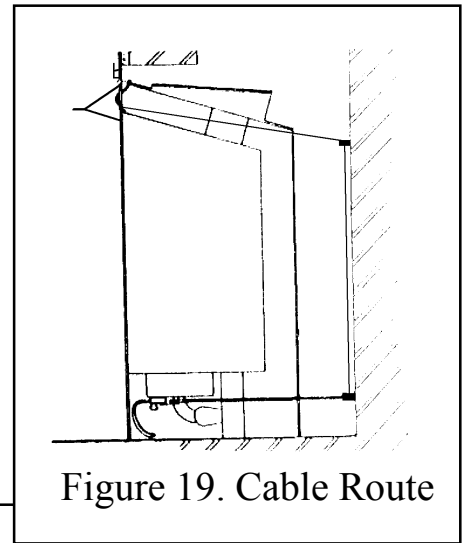

Figure 19. Cable Route
6. Thread the cables through the eyebolts. Return the cables through the holes near the bottom of the convection box back panel, (**For precast or clay block flue systems return the cables through the slotted holes in the side of the convection box**), and through the “V” shaped brackets near the bottom front sides of the convection box - See figure 19.